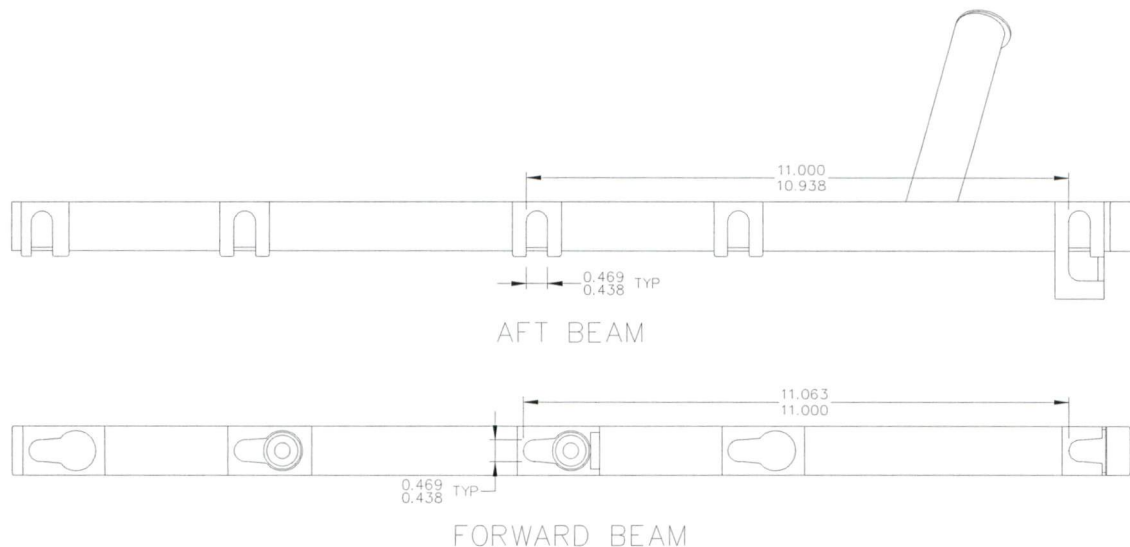

Figure 5.1 – Critical Keyway Dimensions
- b) Critical keyway dimensions are shown in Figure 5.1. Attempt to insert 15/32 drill shank into bottom end of keyway. If drill can be inserted, slot is worn beyond limit.